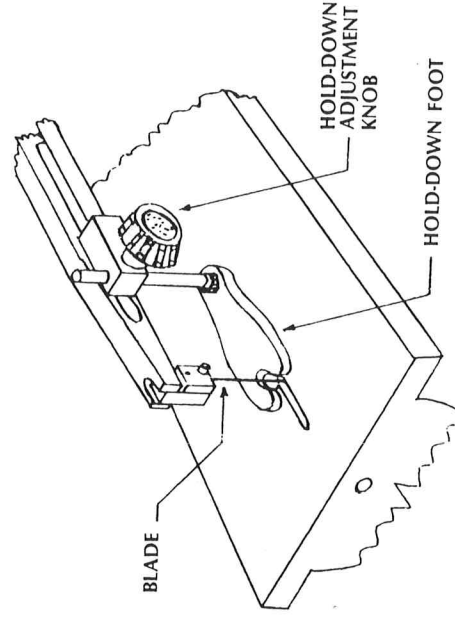

Fig. 13
Step 3: Rotate the hold-down foot to the blade. Slide the blade through the cutout at end of the hold-down foot. Retension the blade, and center the foot on the blade (see fig. 13).